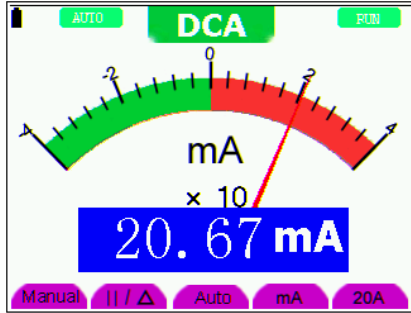

Figure 40.- DC current Measurement for 400 mA.
3. Connect the red and black leads to the measured points and the **DC** current values of measured points will be displayed on the screen. Look at the display; you can see a screen that looks like the following figure 40.
Look at the display; you can see a screen that looks like the following figure 40.